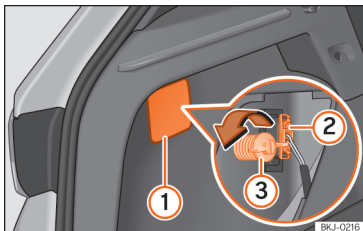
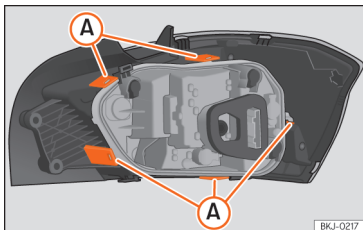

Fig. 161 Boot: access to the bolt securing the tail light unit.
Fig. 162 Retaining tabs on reverse side of tail light.
- Remove the lid, levering the flat side of a screwdriver into the recess >>> **Fig. 161** ①.
- Remove the bulb connector ②.
- Unscrew the bolt securing the light ③ by hand or using a screwdriver.
- Remove the bulb holder unlocking the retaining tabs >>> **Fig. 162** A.